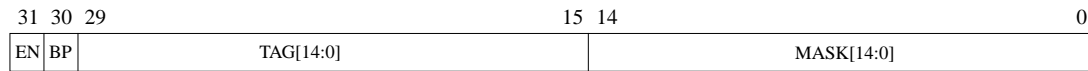

Figure 36: Write protection register 1 & 2
Write protection is provided to protect the memory and I/O areas against accidental overwriting. It is implemented as two block protect units capable of disabling or enabling write access to a binary aligned memory block in the range of 32 Kbyte - 1 Mbyte. Each block protect unit is controlled through a control register (figure 36). The units operate as follows: on each write access to RAM, address bits (29:15) are xored with the tag field in the control register, and anded with the mask field. A write protection error is generated if the result is not equal to zero, the corresponding unit is enabled and the block protect bit (BP) is set, or